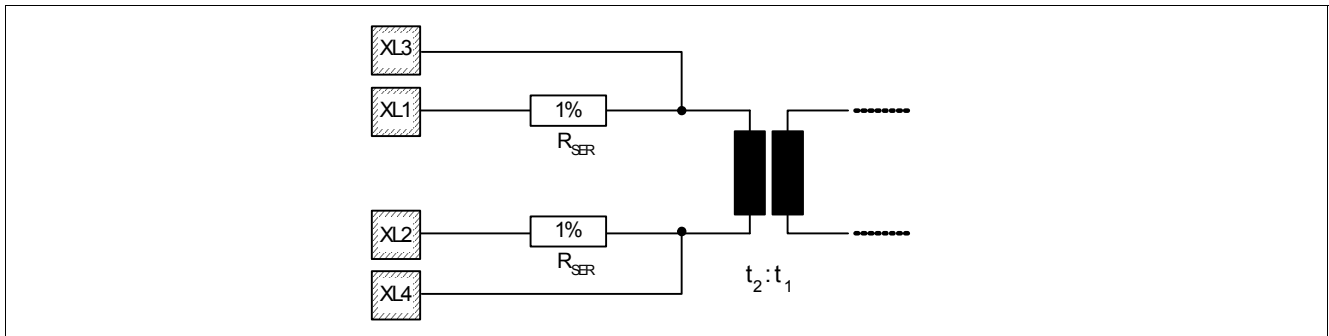
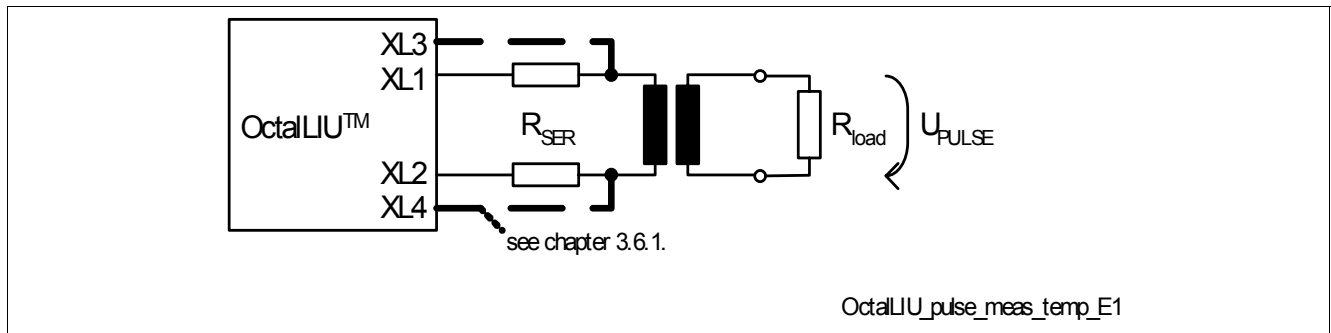
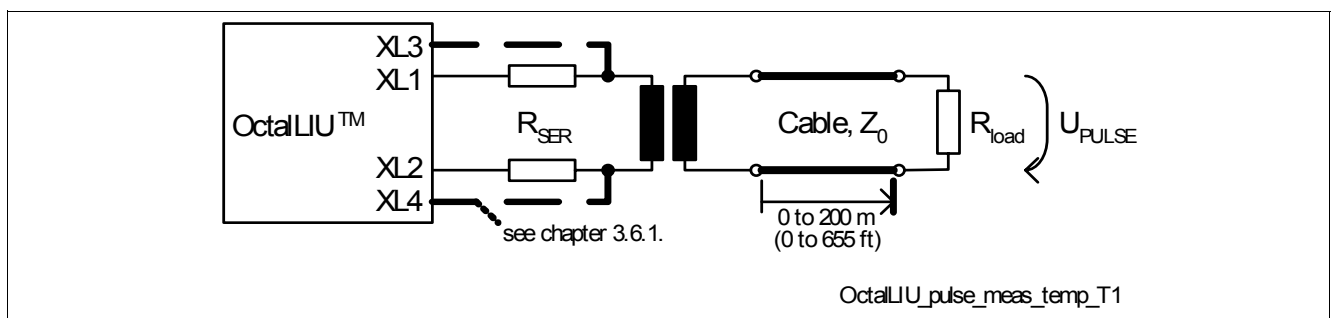

Figure 30 Transmit Line Interface
Figure 32 Measurement Configuration for E1 Transmit Pulse Template
Figure 33 Measurement Configuration for T1/J1 Transmit Pulse Template
The principle transmit line interface is shown in Figure 30. Two application modes are possible:
- For generic E1/T1/J1 applications with optimized return loss the transmit output resistance is configured by using the pins XL3 and XL4 as shown in Figure 30. The operation mode (E1/T1/J1) is selected by software (register bit PC6.TSRE) without the need for external hardware changes: Here R_{SER} is always 2 Ω , see Table 23.
- For T1: FCC68; ANSI T1. 403 1999, figure 4; ITU-T G703 11/2001, figure 10 (for different cable lengths), see Figure 56 and Figure 33 for measurement configuration were $R_{load} = 100 \Omega$
- For E1: ITU-T G703 11/2001, figure 15 (for 0 m cable length) see Figure 55; ITU-T G703 11/2001, figure 20 (for DCIM mode), see Figure 32 for measurement configuration were $R_{load} = 120 \Omega$ or $R_{load} = 75 \Omega$
If LBO attenuation is selected, the programming of XPM(2:0) will be ignored. Instead the pulse shape programming is handled internally: The generated pulse shape before LBO filtering is the same as for T1 0 to 40 m. The given values are optimized for transformer ratio: 1 : 2.4 and cable type AWG24 using transmitter configurations listed in Table 23 and shown in Figure 30. The measurement configurations of Figure 32 with $R_{load} = 120 \Omega$ and Figure 33 with $R_{load} = 100 \Omega$ are used.
The given values in **Table 26** and **Table 27** are optimized for transformer ratio: 1 : 2.4; cable: AWG24 and configurations listed in **Table 23** and shown in **Figure 30**.